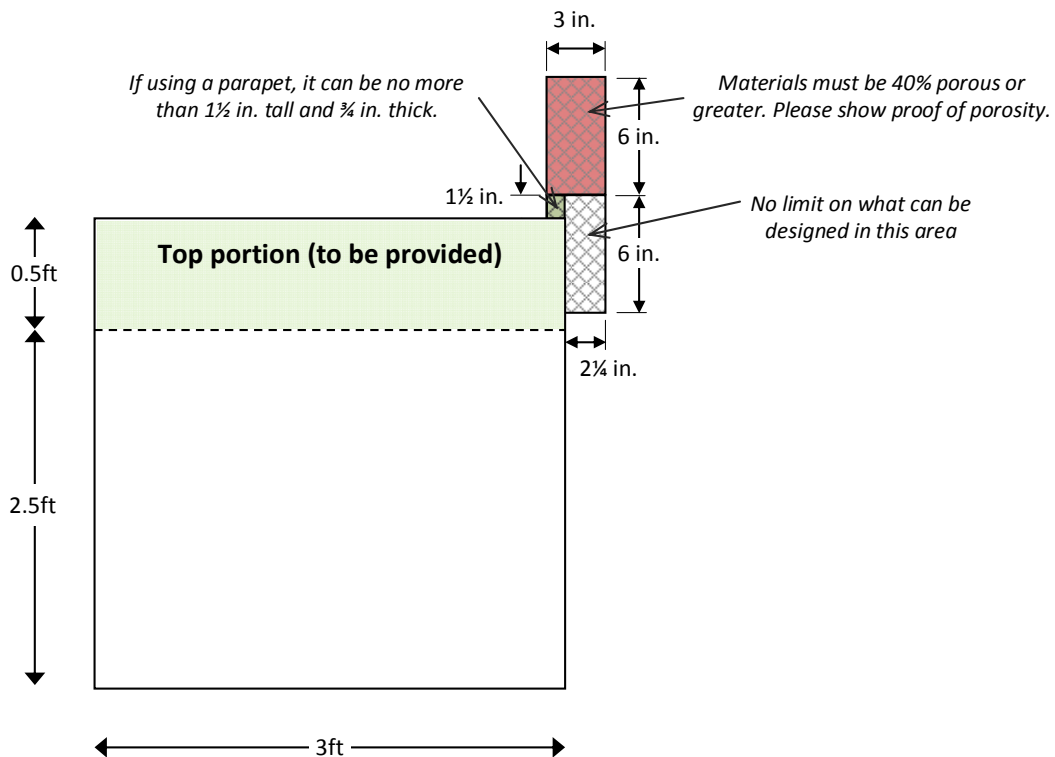

Figure 2. Design parameters for the building model.
- As shown shaded in green in Figure 2, the restrictions for the mitigation solutions if using a solid parapet, were to be no more than 1½ inches tall and ¾ inch thick. This parapet could be made out of any material.
- There was no restriction as to what could be placed in the area that extended 2¼ inches out of the top outer corner of the parapet and 6 inches below this same point. Any material could be used here. This area is shaded in black in Figure 2.
- In the 3" by 6" area above the area shaded in red, any material used was required to be 40% porous or greater. Proof of porosity was required. This area is shaded in red on Figure 2.